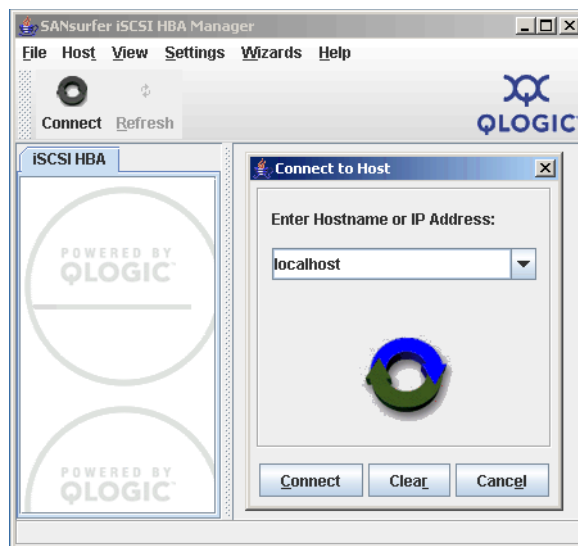

Figure 21-20 SANsurfer - Connect to host
2. SANsurfer starts and by default connects to the local host, when the GUI and agent are both installed in the host where the HBA is installed. When the GUI is installed on a separate management station, specify the DNS name of the host in the field Enter host name or IP address. Click **Connect** in the Connect to Host dialog. See Figure 21-20.